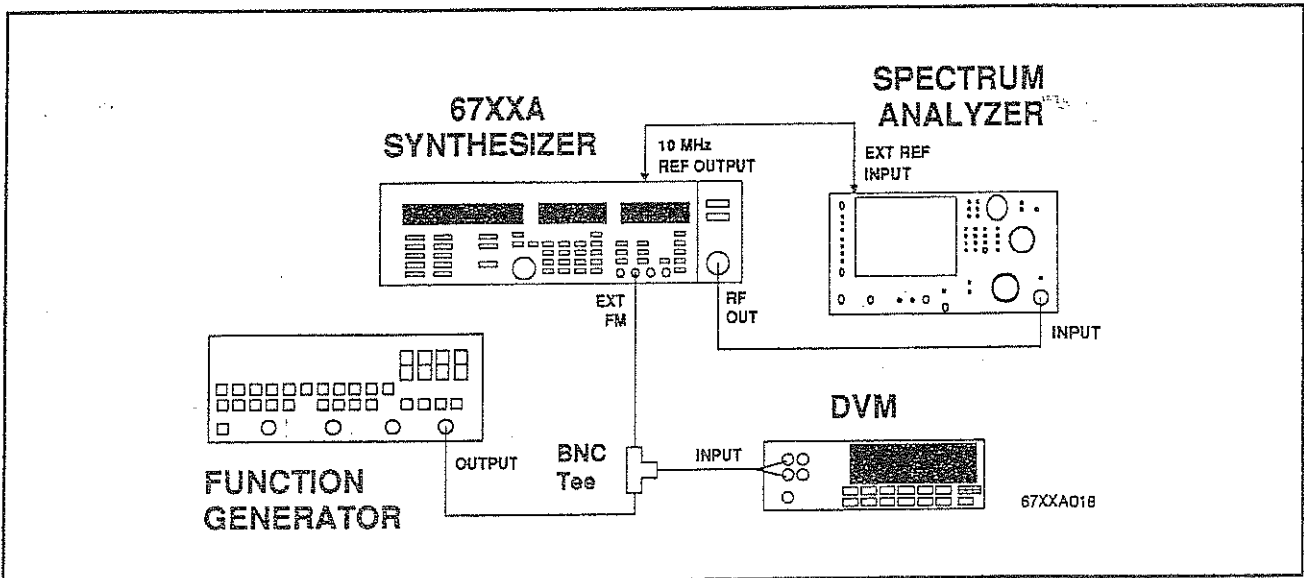

Figure 3-15. Test Equipment Setup for FM Sensitivity Calibration (0.01 to 20 GHz)
1. Connect the equipment as shown in Figure 3-15.